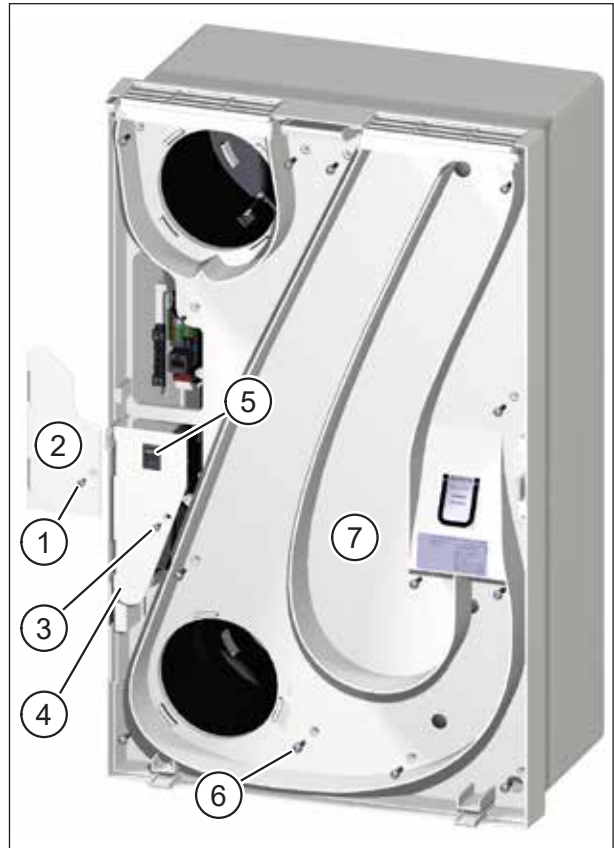

Fig. 23: Remove electronics compartment covers and intermediate plate
- ▶ Use the TX10 screwdriver to loosen the Torx screw (item 1 in Fig. 23) on the upper electronics compartment cover (item 2 in Fig. 23). Then remove the plate.
- ▶ Use the TX10 screwdriver to loosen the Torx screw (item 3 in Fig. 23) on the lower electronics compartment cover (item 4 in Fig. 23).
Remove the lower electronics compartment cover carefully because the mains switch (item 5 in Fig. 23) and its wiring are fixed to it.
- ▶ Use the TX20 screwdriver to loosen the 13 Torx screws (item 6 in Fig. 23) on the intermediate plate (item 7 in Fig. 23). Then remove the plate. Guide the lower electronics compartment cover through the opening in the intermediate plate.